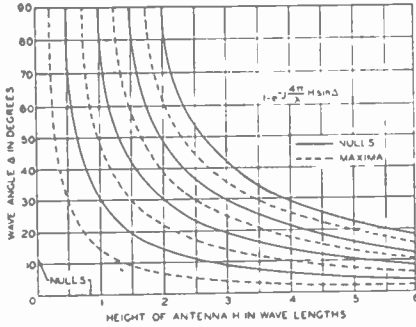

Fig. 13.
Plotting wave angle Delta against height of antenna (H) for maxima and minima, as expressed in the first term of the above equation, we obtain a series of curves as indicated in Figure 13.
Figures 13 and 14 are most useful in preventing errors in the plotting.
Referring to Figure 13, it is noted that the optimum height H for a wave angle of 15 degrees is one wavelength.